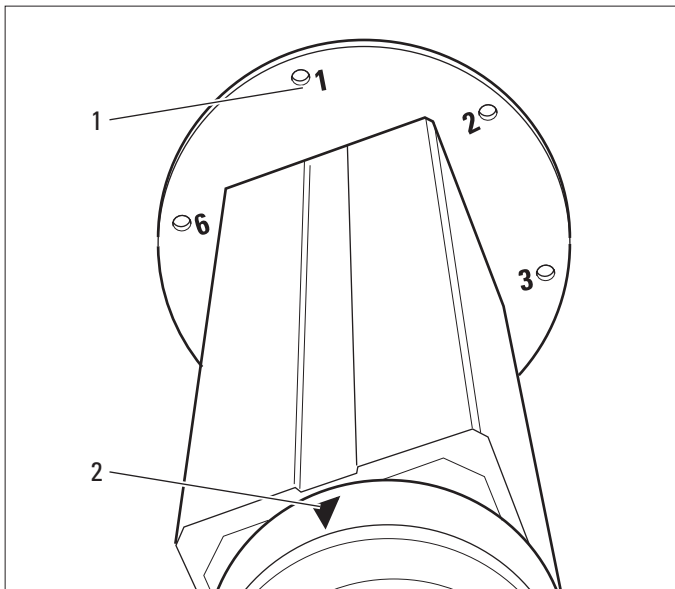

Fig. 2
In order to facilitate mounting of the Telescope Mount, the screw holes on the upper flange of the Telescope Mount should be numbered. The number 1 (1) is positioned above the red triangle (2) on the lower flange of the Telescope Mount (Fig. 2), the number 4 (3) above the connection (4) of the remote control at the lower flange (Fig. 3).